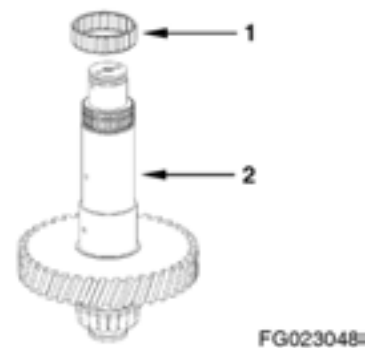

Figure 119
- Remove needle cage (1, Figure 119) from the shaft (2, Figure 119).